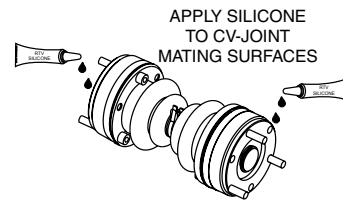

Figure 18. Applying RTV Silicone
14. Apply a thin coat of RTV silicone (Figure 18) to mating surfaces of CV axle assembly.